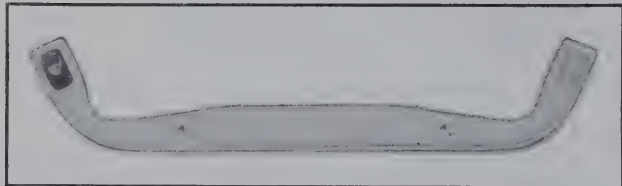

Figure 1-12. Tuning Wand MX-173/ARM-1
1. TUNING WAND MX-173/ARM-1.—The tuning wand is made of clear plastic with a powdered iron slug imbedded in one end and a copper slug in the other. (See fig. 1-12.) It is used to determine the resonant condition of various circuits.